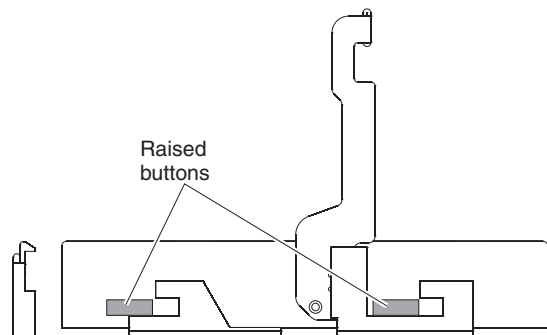

Figure 49. Aligning the drive
b. Align the two raised buttons on each side over the matching gap in the drive channel on the drawer, as shown in Figure 49.